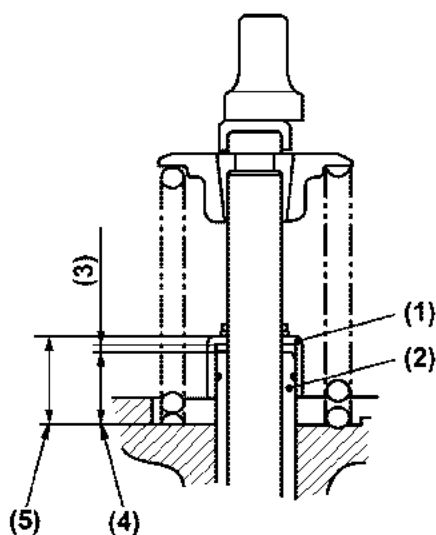

Figure 5-75
Check the projection from the cylinder head (Figure 5-75, (4)).